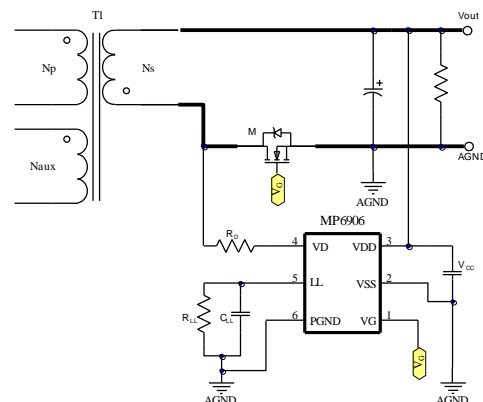

Figure 12: Synchronous Rectifier
If the circuit has a high efficiency requirement, it is recommended to use a synchronous rectifier (SR) instead. The MP6906 is a suitable SR controller where the output voltage is low and there is no need for a secondary auxiliary winding (see Figure 12). The MP6906 is available in a SOT23-6 package, which only requires few extra PCB dimensions and external components.